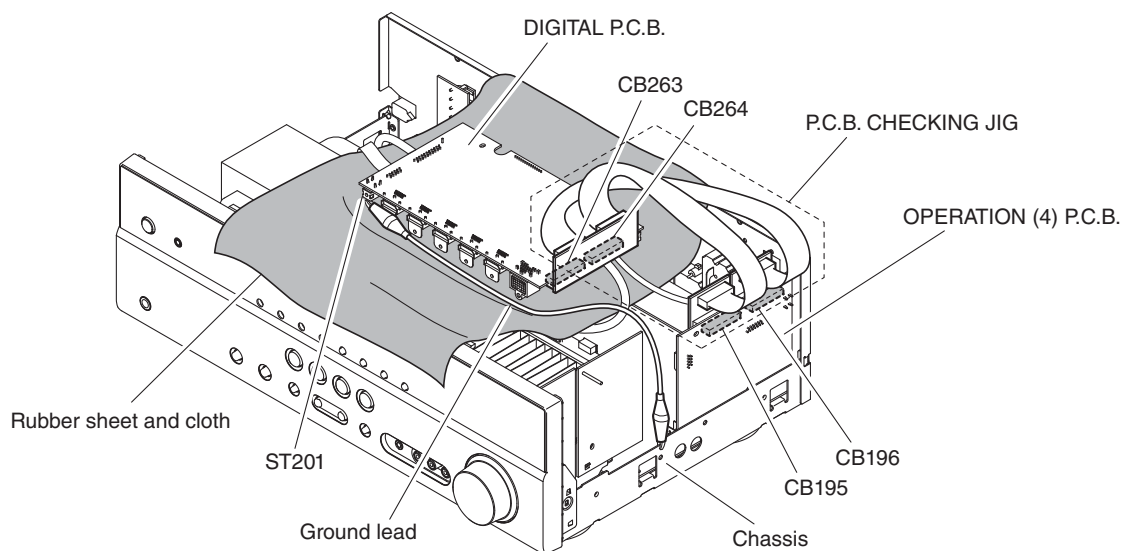

Fig. 4
- Put the rubber sheet and cloth over this unit, and place the DIGITAL P.C.B. on them. (Fig. 4)
- Connect ST201 on DIGITAL P.C.B. to the chassis with a ground lead or the like. (Fig. 4)